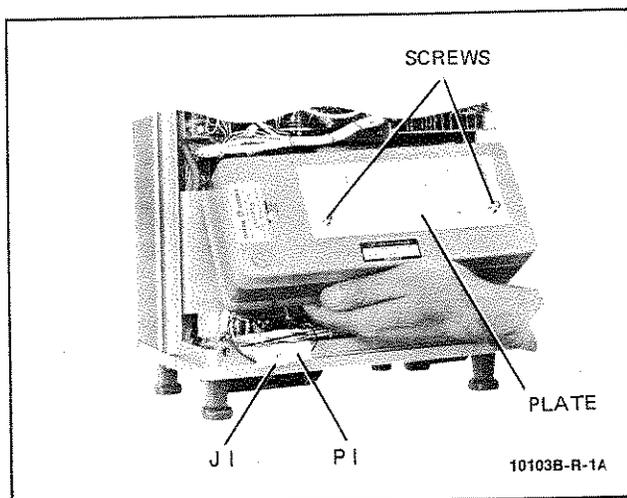

Figure 2-2. Battery Pack Installation
- e. Place battery pack in instrument as shown in figure 2-2.
- f. Install two battery screws (figure 2-2).
- g. Connect P1 to J1 (figure 2-2).